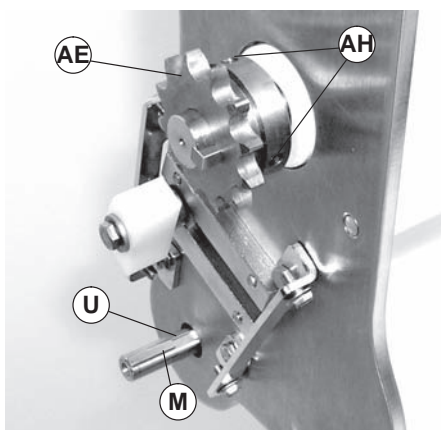

Figure 11
Depending on sprocket sizes, it may be necessary to remove drive sprocket (Figure 11, item AE) by loosen two set screws (AH) to install chain and sprockets.
4. Install key (M) on conveyor input shaft (U).